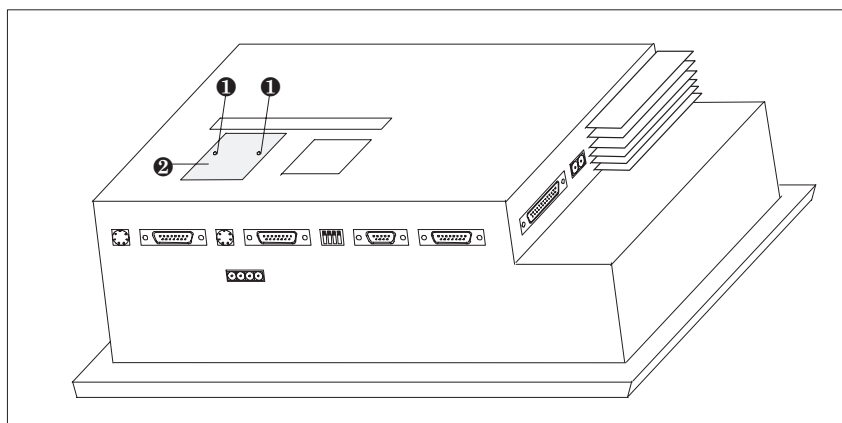

Figure 17-1 Removing the cover (example TP37)
2. Release the two pop rivets ❶ and then the cover ❷ indicated in figure 17-1, in an example of the TP37, from the rear panel of the Touch Panel.